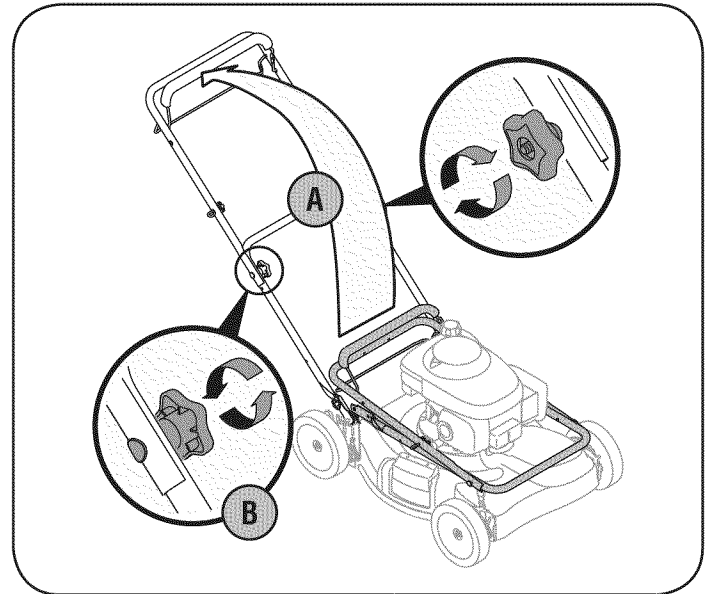
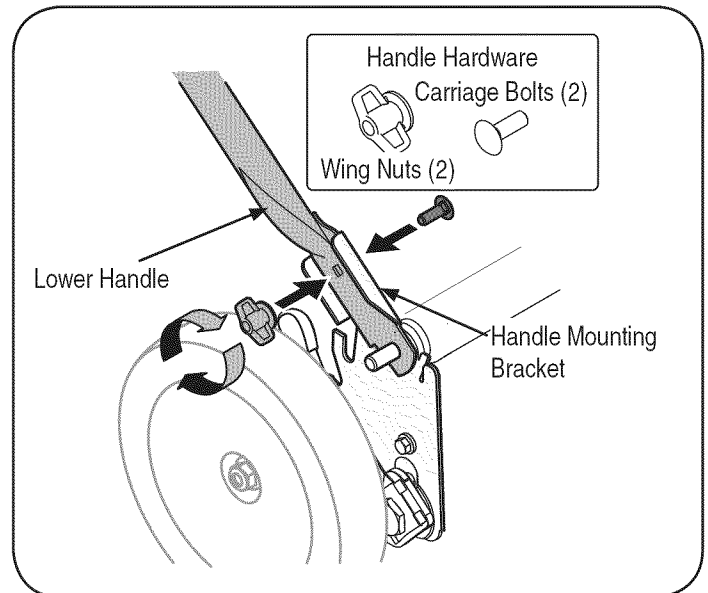

Figure 1
Figure 2
- a. Pull up and back on upper handle as shown in Figure 1. Make certain the lower handle is seated securely into the handle mounting brackets. See Figure 2. Do not crimp cables while lifting the handle up.
2. Insert a carriage bolt found in the manual bag into the upper hole on the handle mounting bracket. Secure with one plastic wing nut, also included in the manual bag. Repeat on other side with remaining hardware. See Figure 2.